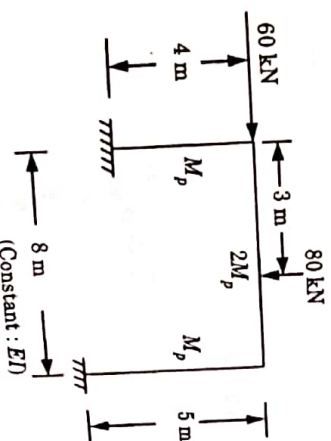

Fig. 4.
g. Determine the plastic moment capacity M_p for the frame shown in Fig. 4 given below.